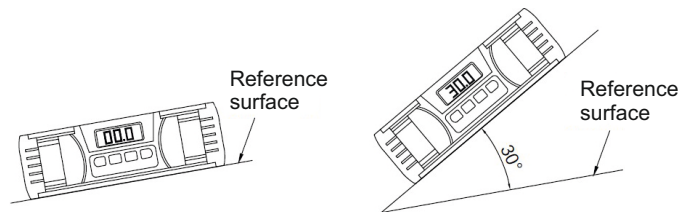

Fig.5
- » Move the instrument to the surface to be measured, the reading is the angle of the two surfaces (Fig. 5).